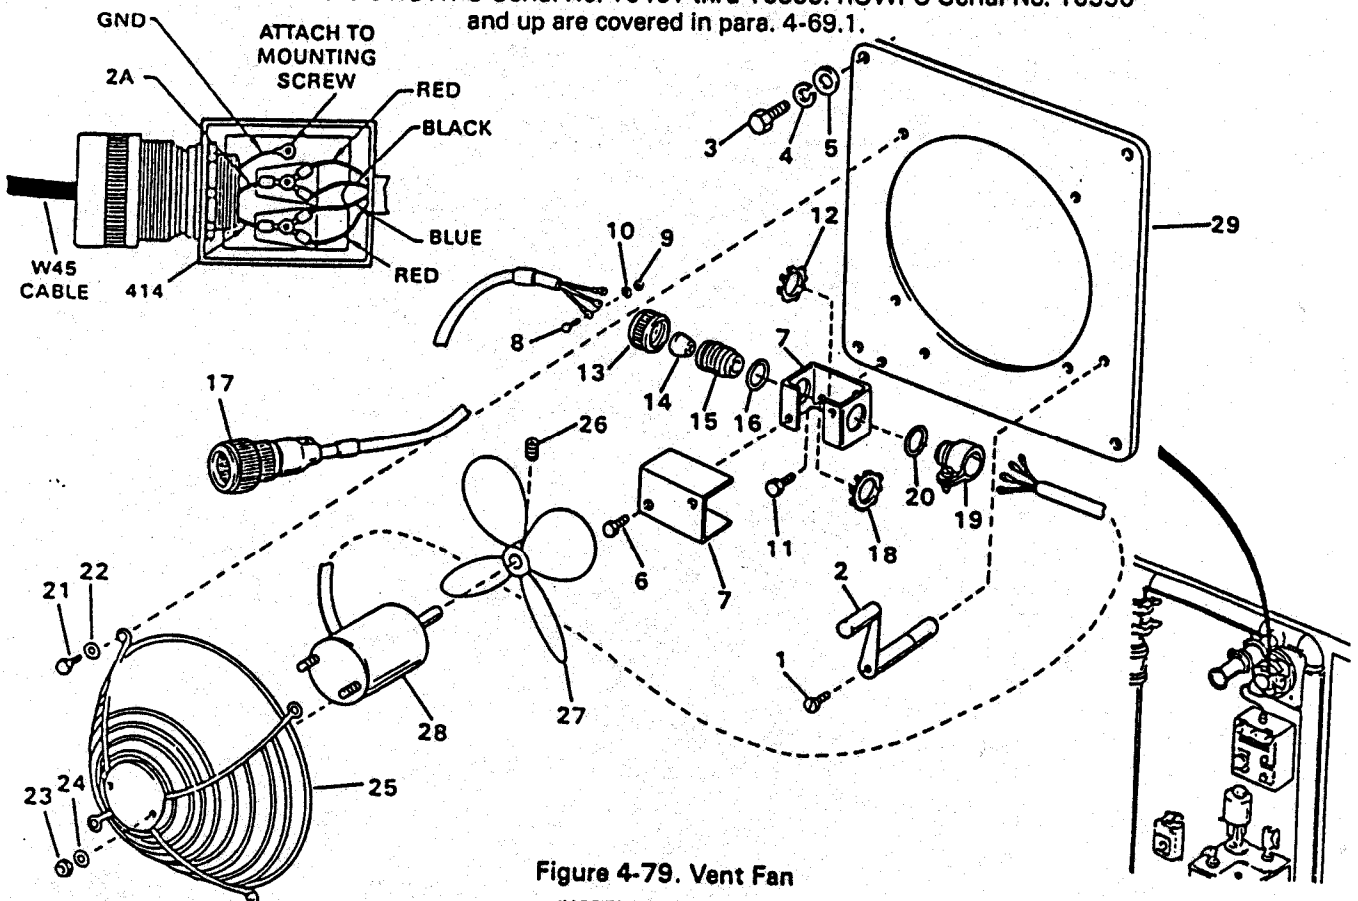

Figure 4-79. Vent Fan
(Figure 4-79).
a. Refer to Figure 4-79 and remove the vent fan as follows:
- (1) Turn the fan switch on switch panel No. 2 to the OFF position.
- (2) Disconnect cable (17) at switch panel No. 2.
- (3) Remove screw (1) and handle (2).
(4) Remove four capscrews (3), lockwashers (4) and washers (5) and remove the fan assembly from the ROWPU wall as a unit.
a. Remove two screws(6) and box cover(7). This item consists of two parts, a box and a cover, Disconnect wires from cable (17) by removing twine and electrical tape and removing screws (8), nuts (9) and lockwashers(10) which connect cable (17) to motor (28) cable. The motor cable is part of the motor.
b. Remove groundcapscrew(11). Unscrew nut(13) and slide nut (13), bushing(14) and retainer (15) back on cable (17). Remove conduit nut(12) and pull cable (17) out of box(7). Slide nut (13), bushing (14) and retainer off cable (17). Sealing washer (16) will now be free.
c. Remove conduit nut (18), clamp(19) and sealing washer (20) and slide motor (28) cable out of box (7).
d. Remove four capscrews (21), washers (22), and two nuts (23) and washers (24) and remove fan guard (25). Motor and fan (28 and 27) are now free.
e. Remove setscrew (26) and remove fan (27) from motor (28). Panel (29) is now free.